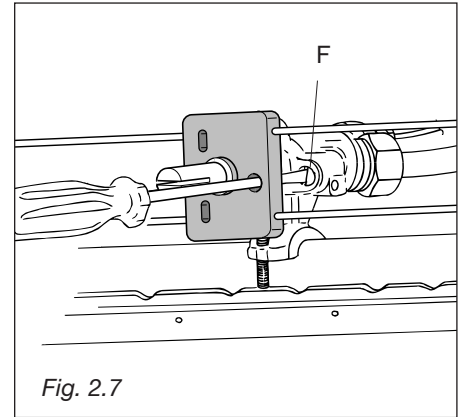

Fig. 2.7
- With a thin screwdriver pass by the hole of microswitch and turn the screw **F** until adjustment is correct (fig. 2.7).